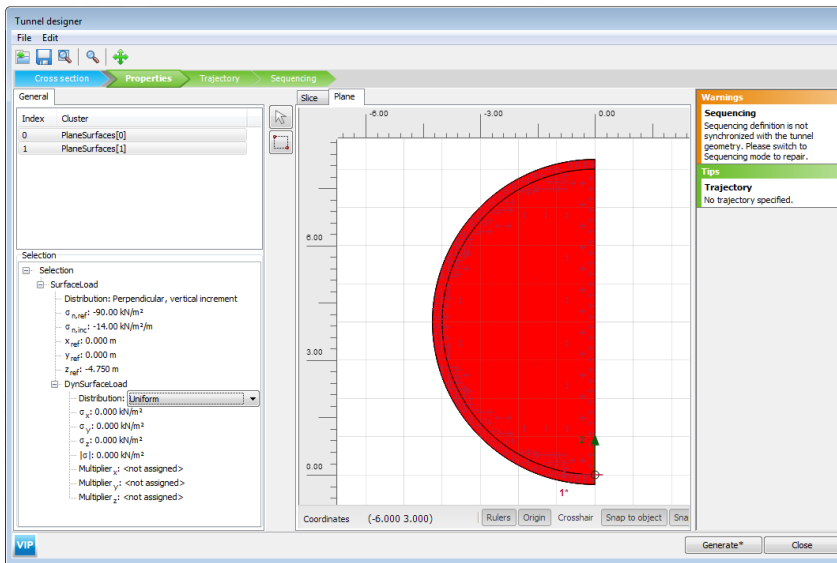

Figure 5.8 *Plane* tabsheet in the *Tunnel designer*
- Set the $\sigma_{n,ref}$ to -90 and $\sigma_{n,inc}$ to -14 and define (0 0 -4.75) as the reference point for the load by assigning the values to x_{ref} , y_{ref} and z_{ref} (Figure 5.8).